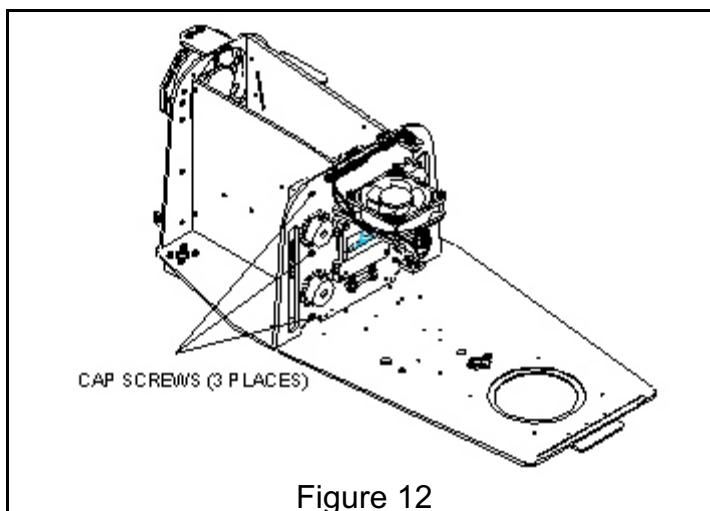

Figure 12
1. Loosen the three cap screws securing the bearing block assembly to the pulse generator plate and push block towards the center of the HELI-PLASI 2000. (Figure 12)